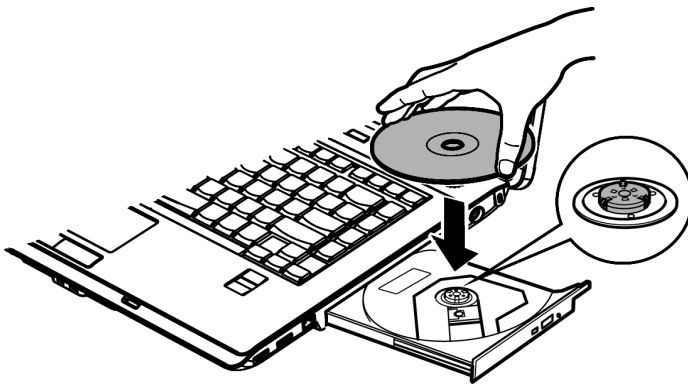

Figure 4-6 Inserting a CD/DVD/HD DVD
*When the drawer is fully opened, the edge of the computer will extend slightly over the CD/DVD/HD DVD tray. Therefore, you will need to turn the CD/DVD/HD DVD at an angle when you place it in the tray. After seating the CD/DVD/HD DVD, however, make sure it lies flat, as shown in figure 4-6.*